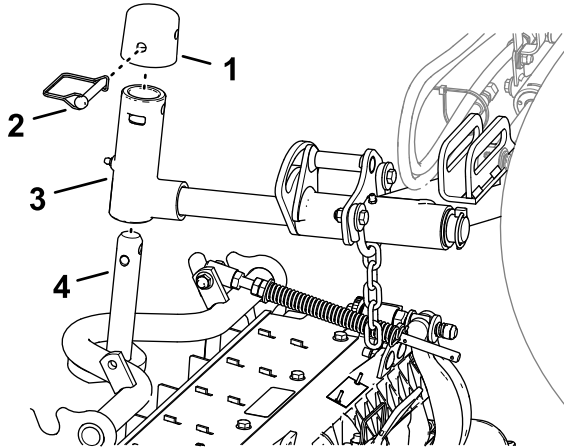

Figure 22
1. Slide a cutting unit under the lift arm (Figure 22).